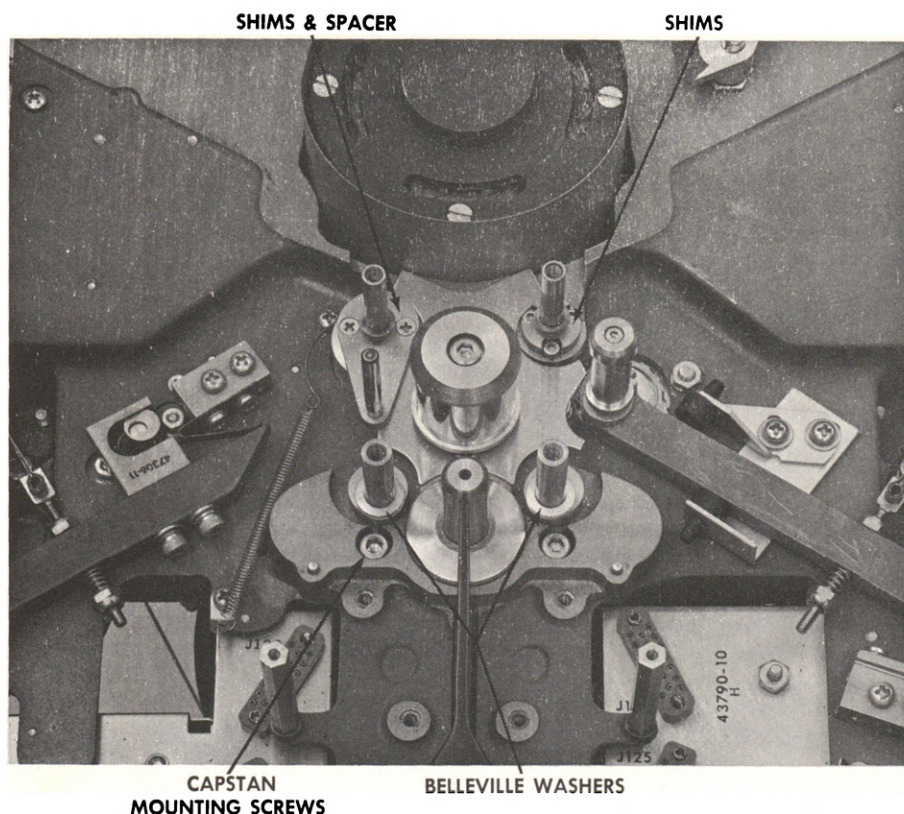

Figure 6-7 Location of Shims and Wavy Washers
WHEN LIFTING OFF THE SUPPLY GUIDE, MAKE SURE THAT ANY SHIMS AND THE TWO WAVY WASHERS UNDERNEATH ARE ALSO REMOVED AND KEPT WITH THE COMPLETE SUB-ASSEMBLY. (SEE FIGURE 6-7.)
WHEN LIFTING OFF THE TAKE-UP GUIDE MAKE SURE THAT ANY SHIMS AND THE TWO WAVY WASHERS UNDERNEATH ARE ALSO REMOVED AND KEPT WITH THE COMPLETE SUB-ASSEMBLY (SEE FIGURE 6-7).
Do not lose the six Belleville washers under each pinch roller (see Figure 6-7).
- Step 2:** To remove the capstan, unscrew the two socket head cap screws accessible from the top side of the transport casting (see Figure 6-7), **BEING SURE TO SUPPORT THE CAPSTAN ASSEMBLY FROM THE UNDERSIDE**. Slowly withdraw the capstan and attached flywheel, pressing on the top end of the capstan, from the underside of the casting. Avoid damaging the shaft or the bearing surface.